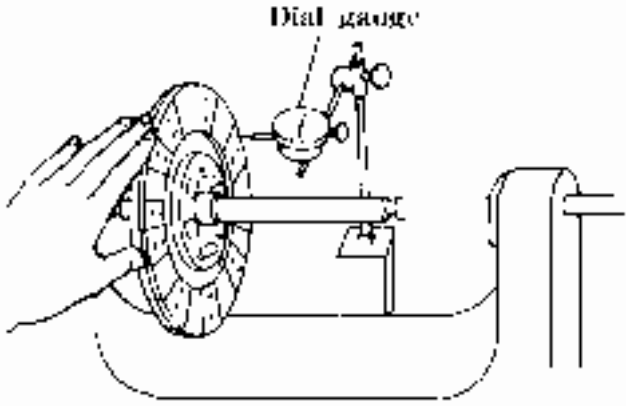

Fig.4-9
6) Measure the deviations of the clutch disc. If the measurements are beyond the usable limits, replace the clutch disc assembly. (Fig4-9)